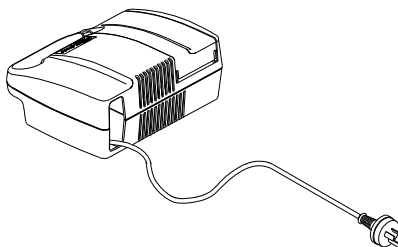

FIGURE 3 - LINE CORD LOCATION
- Remove the line cord from the storage bin in the rear of the unit (**FIGURE 3**).